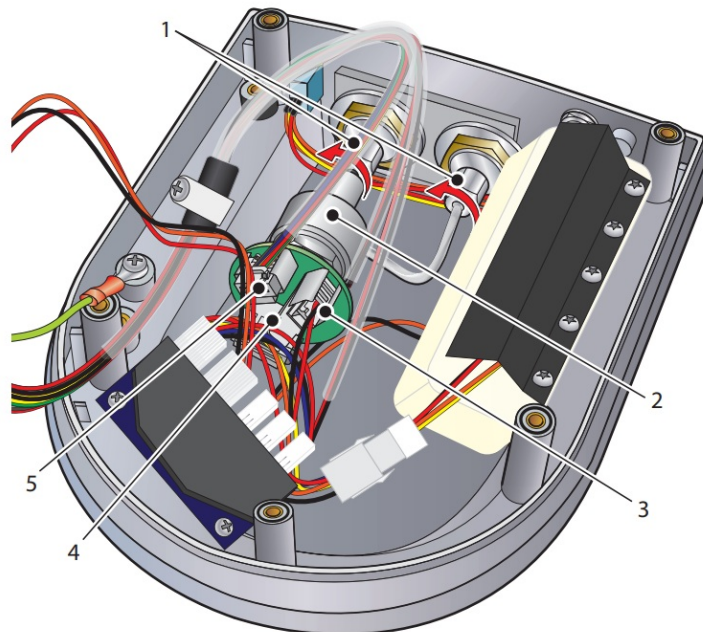

Figure 3 *Internal Sensor Removal*
2. Remove the connectors, (3), (4), and (5) from the back of the sensor (see Figure 3). NOTE: Each connector is locked in position by a clamp situated at the back of the connector. Before attempting to pull the connector out, push this clamp away from the connector in order to release it.
3. Use a spanner to unscrew the locknuts (1) securing the sensor to the gas inlet and outlet ports.
4. Lift the sensor (2) clear.